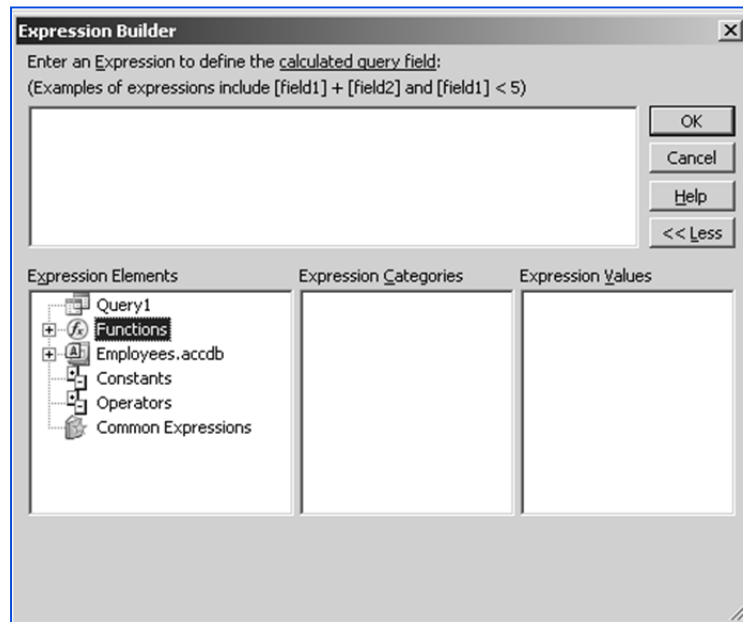

Fig. 3.5.4. Expression Builder window
5. The *Expression Builder* window appears, as shown in Fig. 3.5.4.